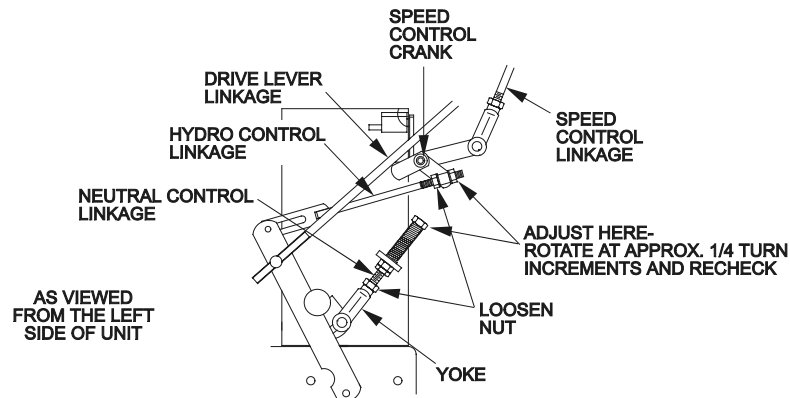
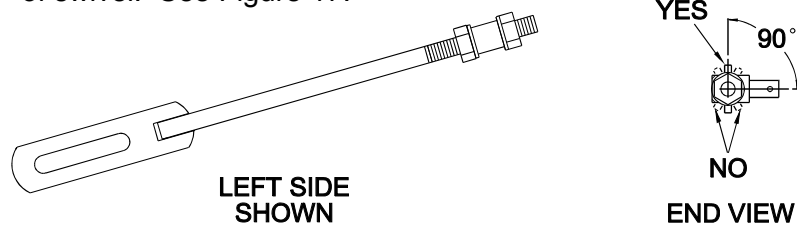

FIGURE 16
FIGURE 17
2. Move the speed control lever (located on the console) to the full forward position and check the orientation of the tabs on the ends of the speed control crank (Figure 16). These tabs should be pointing straight down at the 6 o'clock position or slightly forward. Adjust the threaded yoke at the bottom of the speed control linkage (Figure 16) until the tabs are positioned correctly.
4. Loosen the nut against the neutral control linkage yoke as shown in Figure 16.
2. Loosen the front nut on **left** hydro control linkage as shown in Figure 16. Turn the rear control linkage adjusting nut counter-clockwise until wheel rotates forward. Turn the rear nut of left control link clockwise 1/4 of a turn at a time, stopping to move the speed control forward and back to neutral, until left wheel stops rotating forward. Turn the rear nut an additional 1/2 turn and tighten the front nut making sure not to put a bind on the linkage. Make sure flat part of linkage is perpendicular to pin part of swivel. See Figure 17.